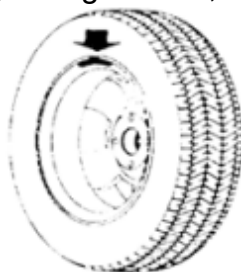

Figure 10-6
10.2.3 Slowly spin wheel, when inside counterweight position indicator light (figure 5-1(3)) all on, clip correspond counterweight on 12 o'clock position on inside of rim, ect figure 10-6;